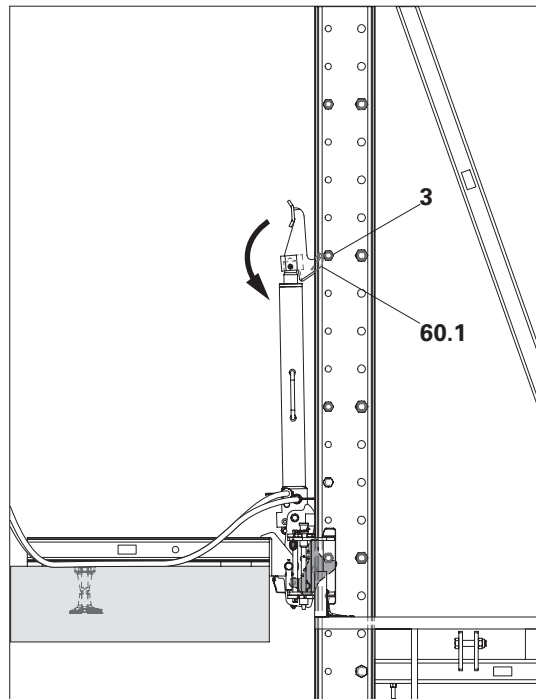

Fig. D4.06
1. Retract hydraulic cylinder until it tilts backwards, claw (**60.1**) slides past the spacers (**3**) positioned underneath and engages again below. (Fig. D4.06)